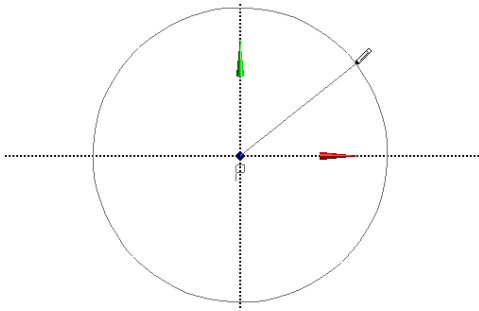

Figure 3-85 Specifying the radius of the circle
5. Move the cursor away from the center and click; a circle is created, as shown in Figure 3-85.